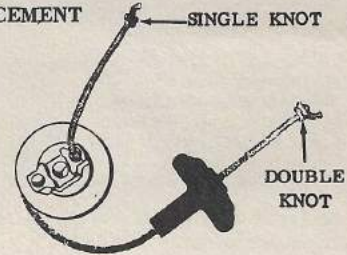

FIG. 20
1. When installing new cord in rotor tie single knot in end. Thread cord through rotor hole (Fig. 20) then wind rope on rotor. Replace handle tying a double knot.